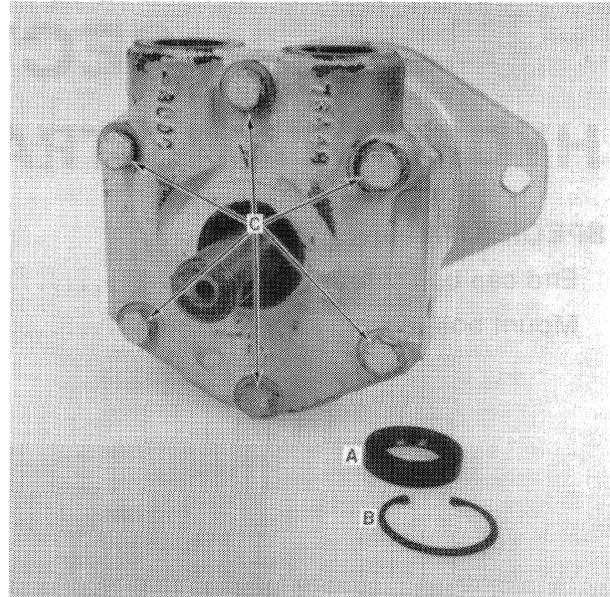
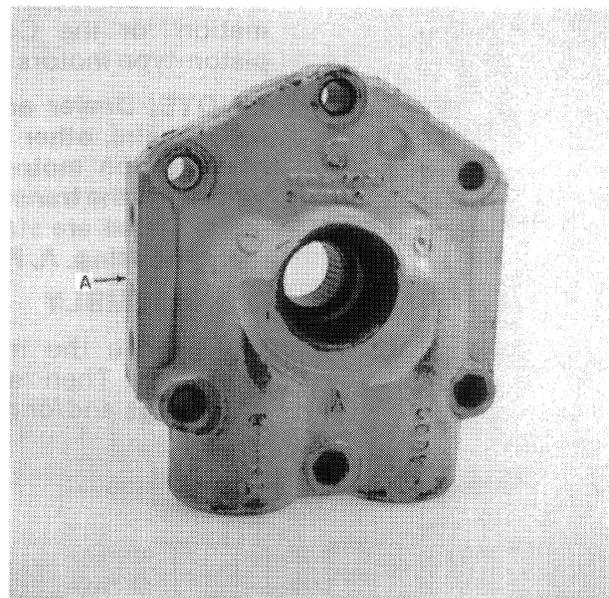

FIGURE 5-4
FIGURE 5-5
4. Remove seal, A, held on by snap ring, B, Figure 5-4.
5. Remove the six retaining cap screws, C, Figure 5-4, and remove back plate, A, Figure 5-5, from the motor housing.